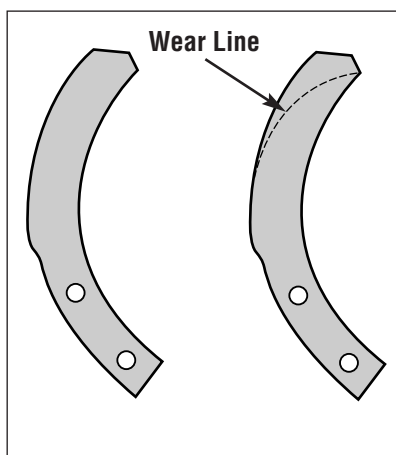

Figure 26: New and worn tines.
Inspect tines after the **first 10 to 15 hours** of tiller operation and then after **every 10 hours**. See Figure 26.
Compare your tines to those shown in Figure 26 to decide whether your tines need replacement. Your tines should be replaced when the following conditions occur:
- ☐ Tines are worn beyond the line shown in Figure 26.
- ☐ Rotate tines before they wear beyond the line shown in Figure 26.